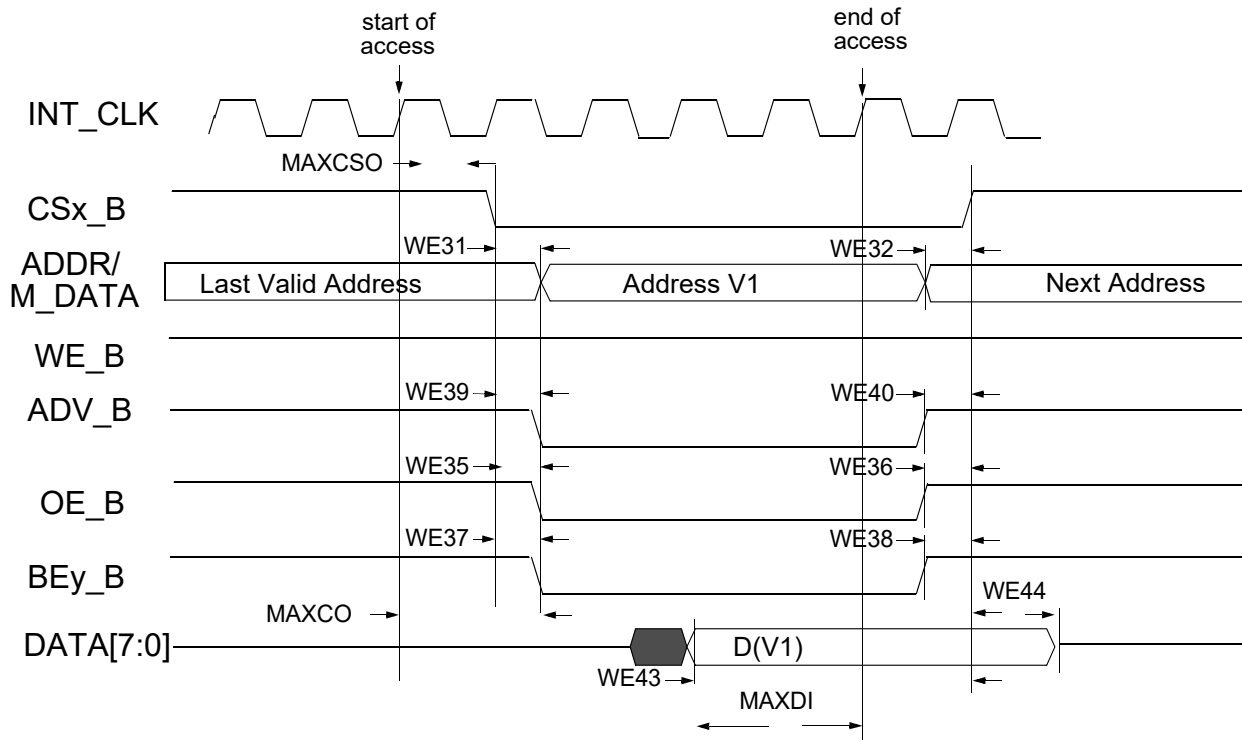
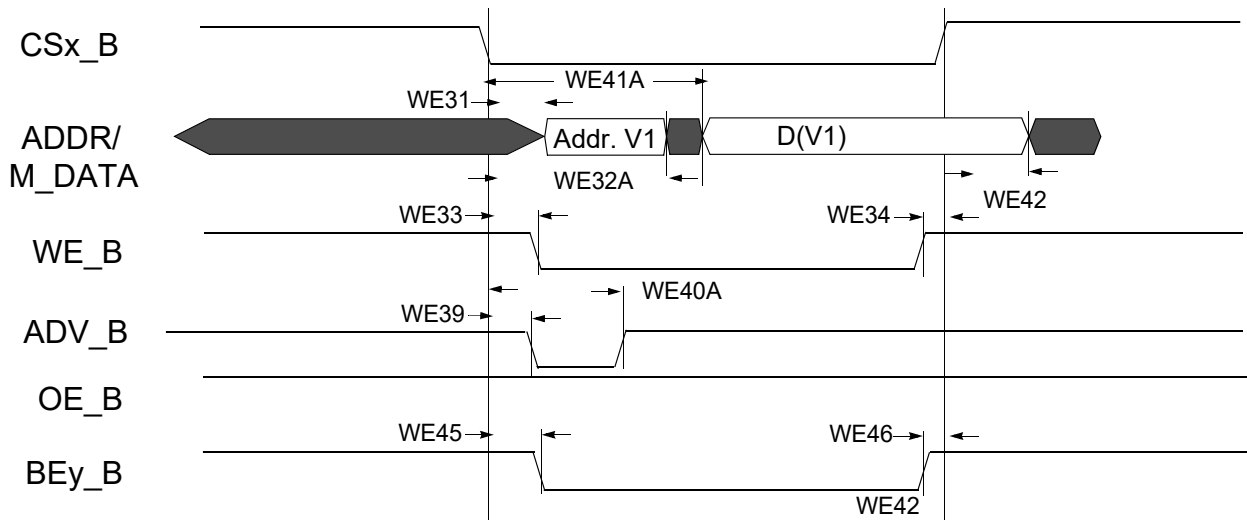
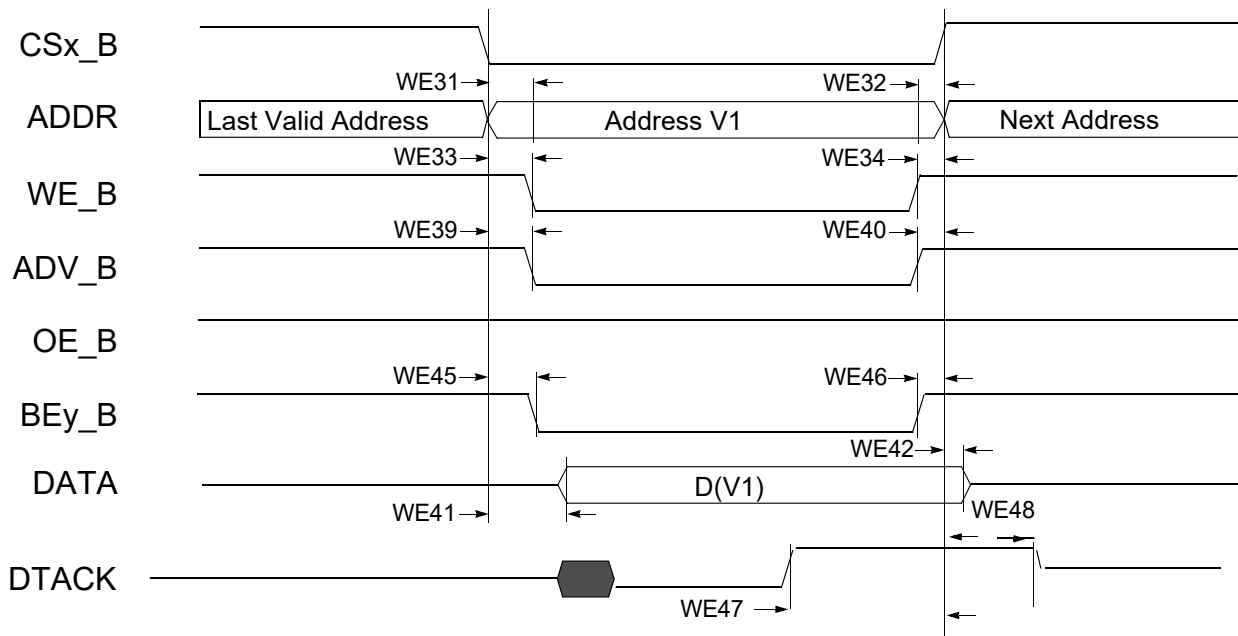

Figure 22. Asynchronous Memory Read Access (RWSC = 5)
Figure 25. Asynchronous A/D Muxed Write Access
Figure 27. DTACK Write Access (DAP=0)
Figure 22 through Figure 27, and Table 41 help to determine timing parameters relative to the chip select (CS) state for asynchronous and DTACK EIM accesses with corresponding EIM bit fields and the timing parameters mentioned above.
Asynchronous read and write access length in cycles may vary from what is shown in Figure 22 through Figure 25 as RWSC, OEN, and CSN is configured differently. See i.MX53 reference manual for the EIM programming model.